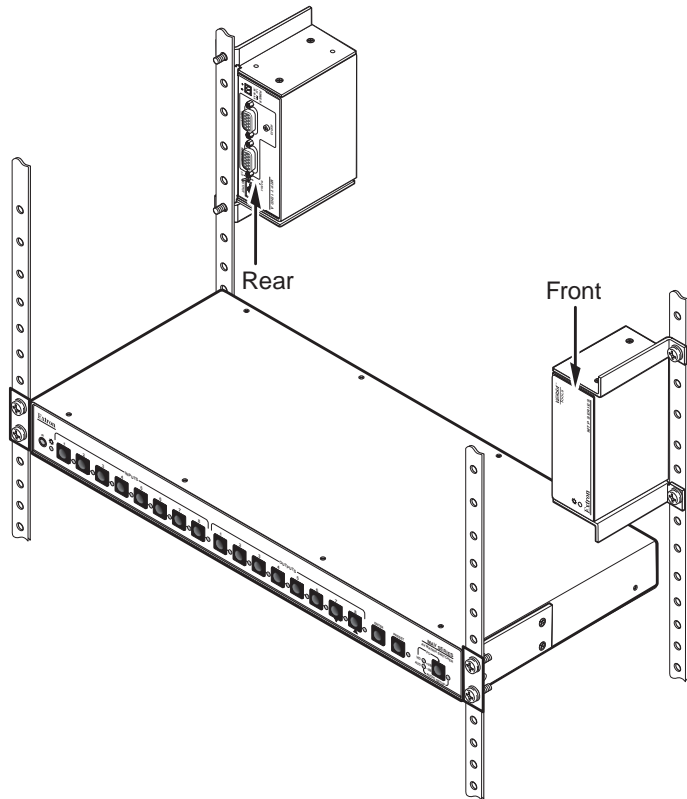

Figure 5 — Typical back of the rack installations
5. Mount the unit to the rack using the two included rack screws (figure 5). The MTP can be vertically mounted facing in either direction.